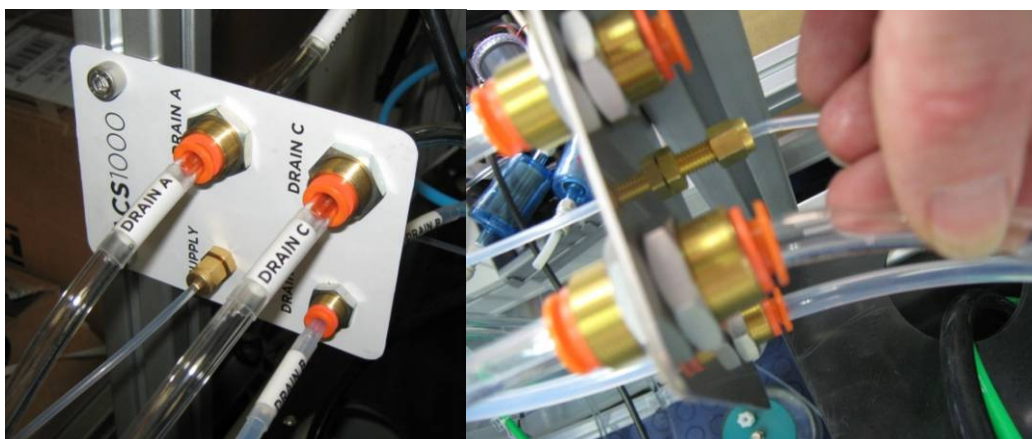

Figure 17 Humidifier port mounting plate.
- Connect the tubing from the charging reserve and the drain reserve bottles to the humidifier port mounting plate (See Figure 17).
- Connect the tubing from the Humidifier module to the internal side of the humidifier port mounting plate (See Figure 17).